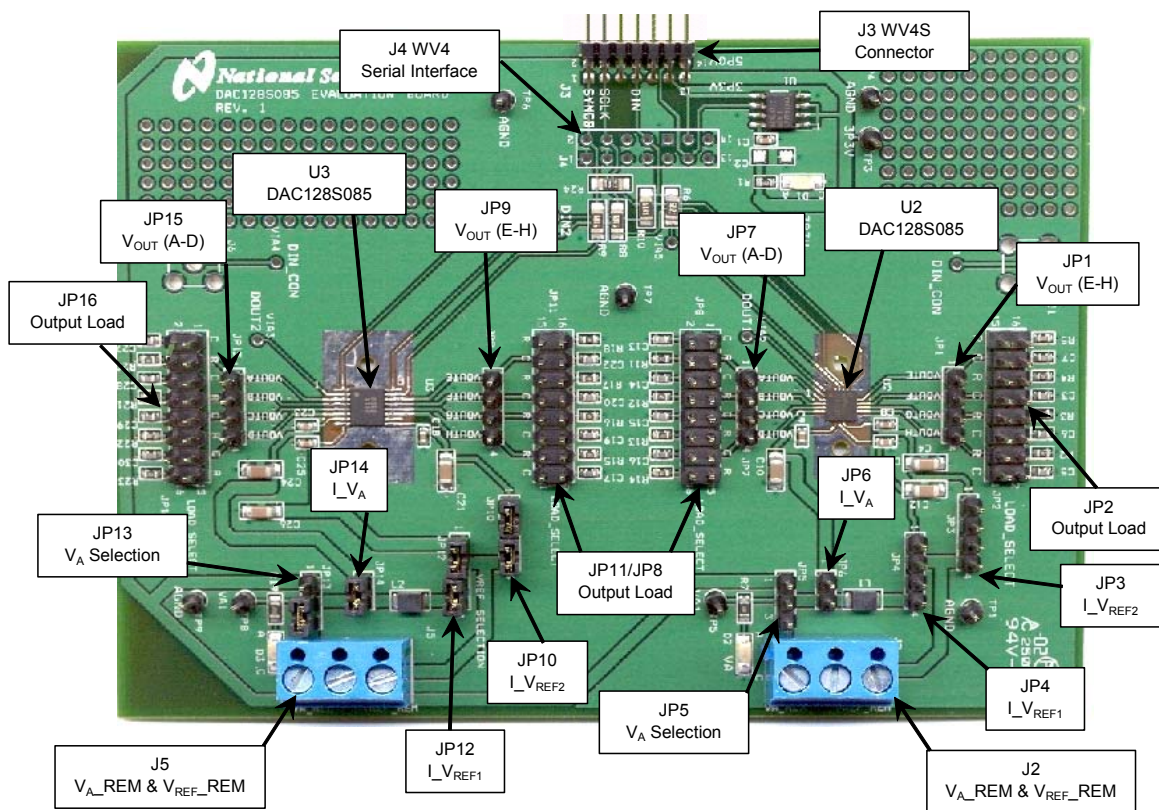
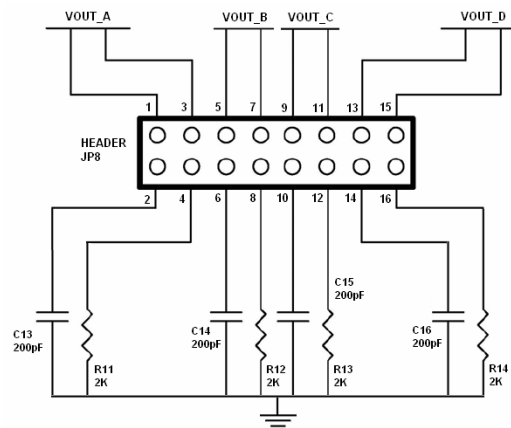
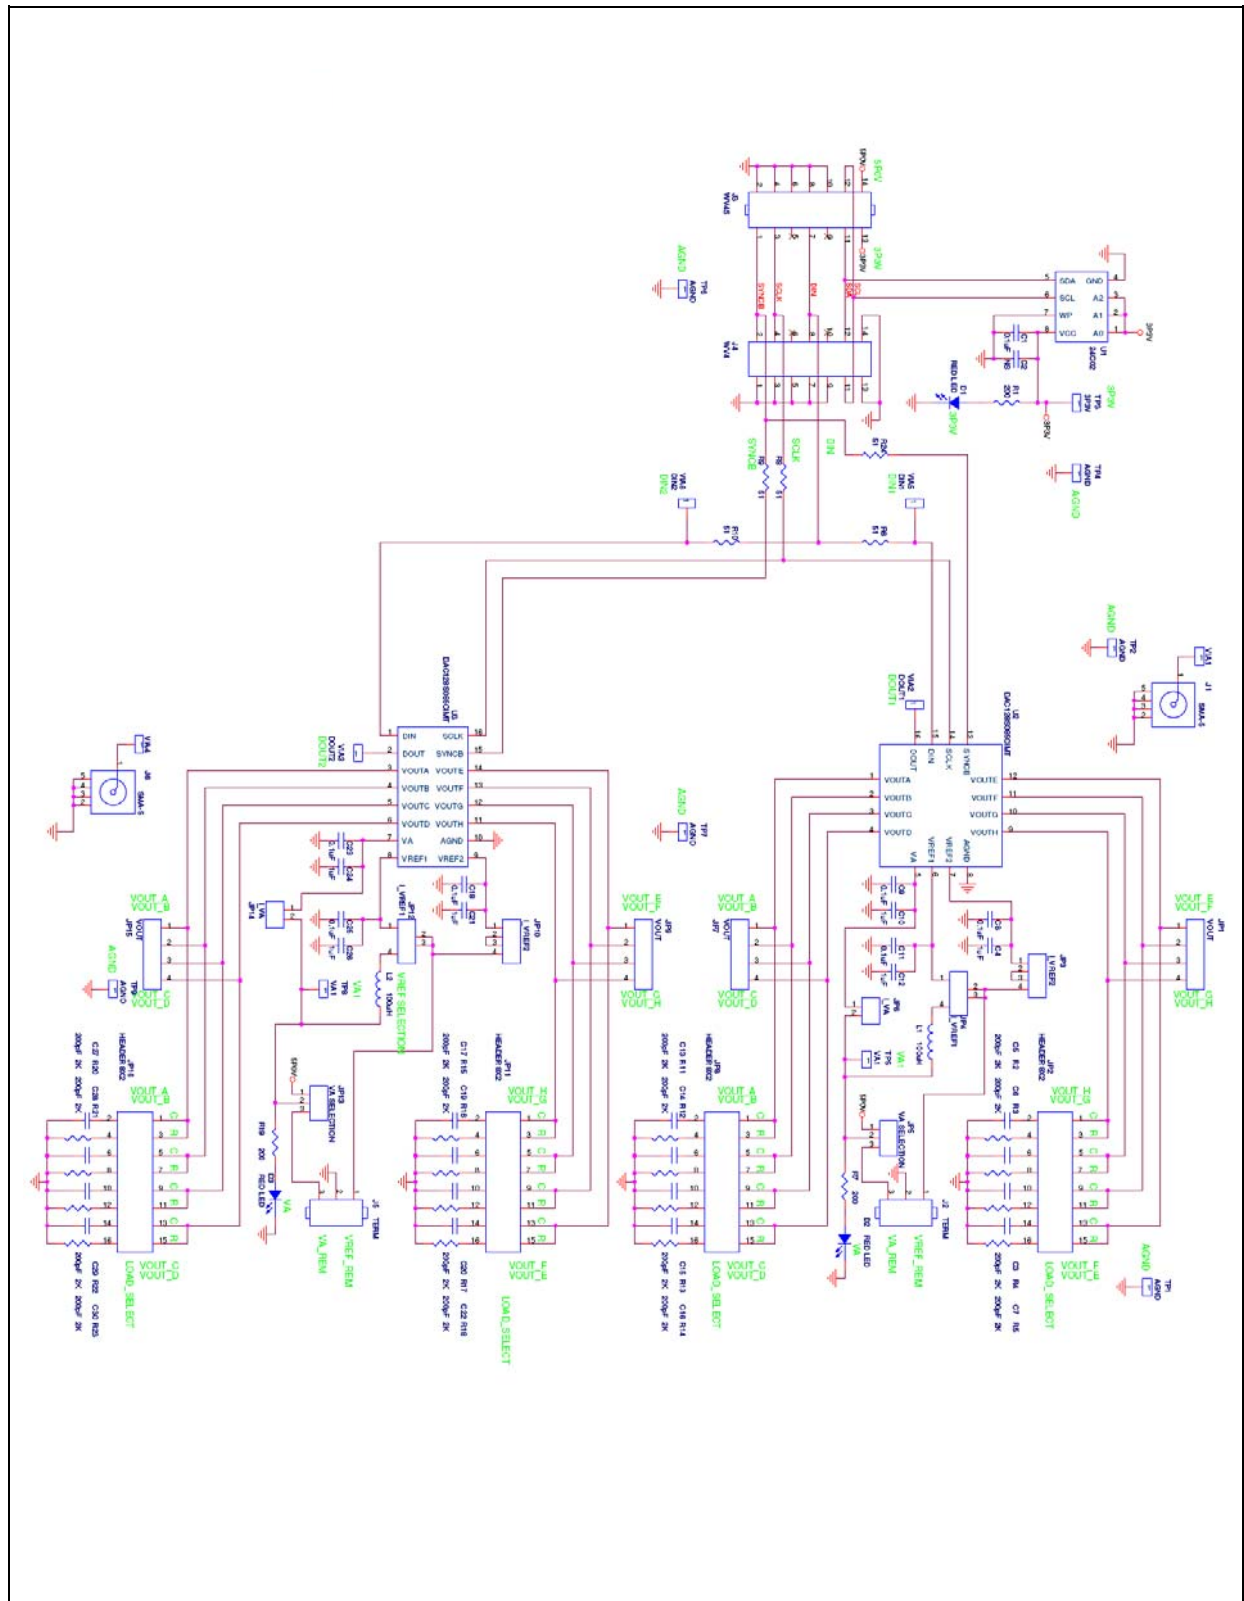

Figure 1: Locations of Test Points and Major Components
Figure 4: JP8 Load Select Header
Figure 7: DAC128S085 Evaluation Board Schematic
The DAC128S085 evaluation board comes fully assembled and ready for use with the WV4 (or higher) system. Refer to the Bill of Materials for a description of components, to *Figure 1* for major component placement, and to *Figure 7* for the Evaluation Board schematic.
Refer to *Figure 1* or the evaluation board schematic (*Figure 7*) for locations of test points and major components.
8. Select the desired output load by adding jumpers to headers JP8/JP16 for outputs A-D and JP2/JP11 for outputs E-H. See *Figure 4* for the configuration of header JP8. Refer to *table 1* in Section 4.0 or the evaluation board schematic (*Figure 7*) for all configurations.
Refer to *Figure 1* for locations of test points and major components.
Table 1 describes the function of the various jumpers on the DAC128S085 evaluation board. The Evaluation Board schematic is shown in Figure 7.
The analog output of this evaluation board is available DC coupled at the header JP7/J15 and JP1/J9. For loaded outputs refer to *Figure 4* and *table 1*.